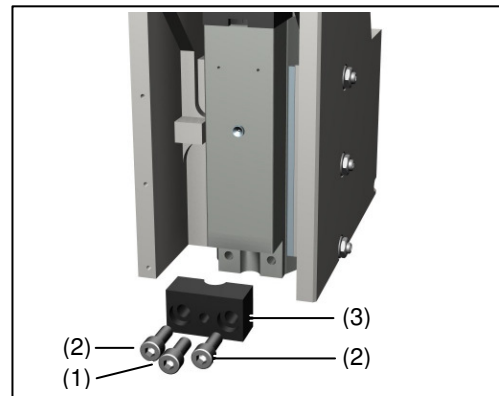

Fig. 6 Take off clamping piece
- ▶ For later clamping of the tool unscrew dog-point locking screw (**Fig. 6**, Pos. 1) in clamping piece approx. 5 mm.
- ▶ Remove the two stretching screws (**Fig. 6**, Pos. 2).
- ▶ Unhinge clamping piece (**Fig. 6**, Pos. 3) to the front.